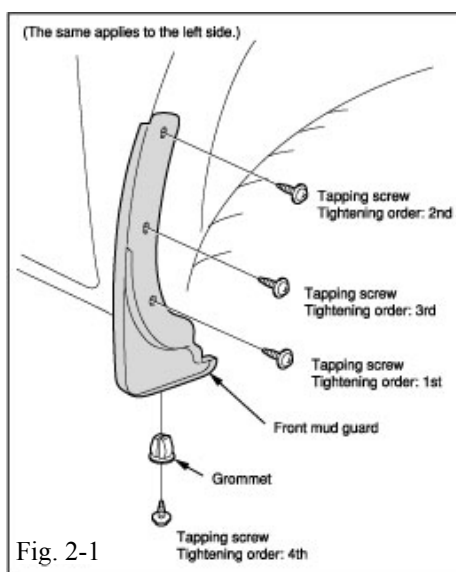

Fig. 2-1
- (a) Put the front mudguard in place and install the grommet into the lower mounting hole (one location). (Fig. 2-1)
- (b) Secure the front mudguard to the inner panel using the tapping screws (four locations). (Fig. 2-1)